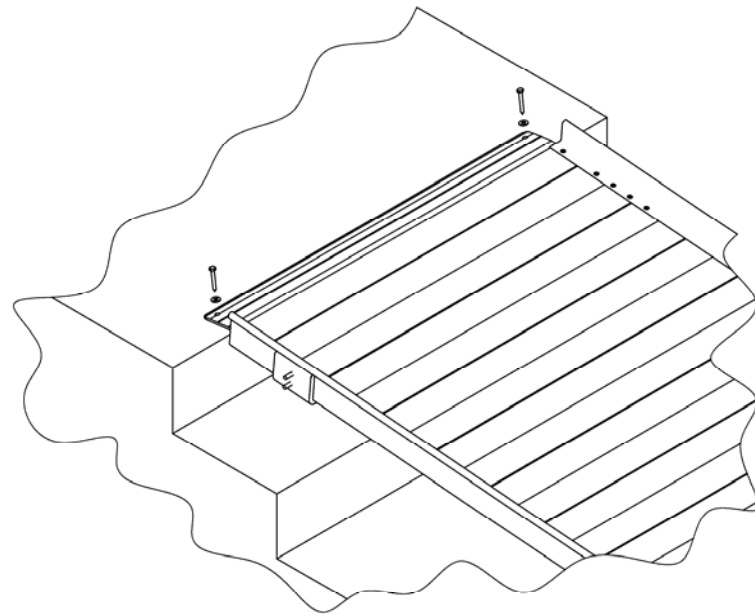

FIG. 23
i) Drill two 1/8" holes into the wooden surface and secure by installing a #10 x 1 1/2" stainless screw and #10 stainless washer into each hole (FIG. 23).